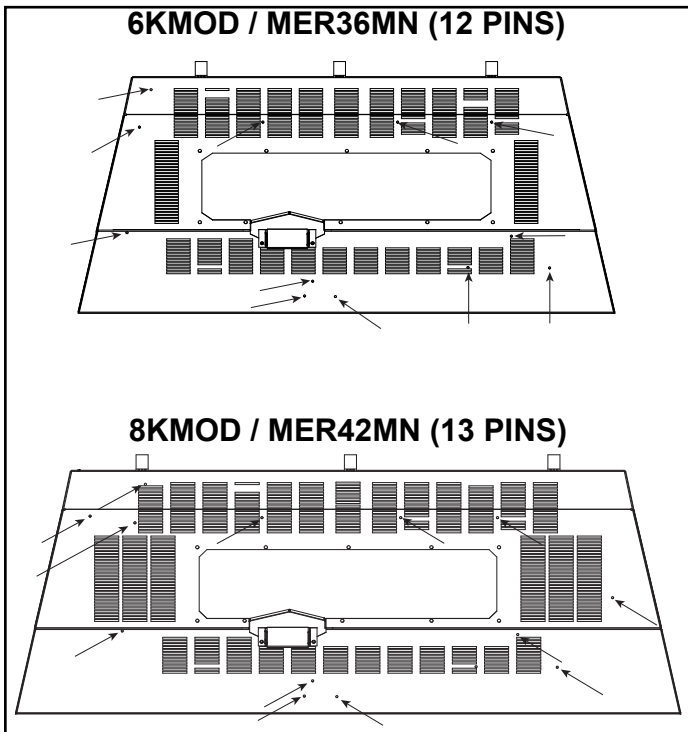
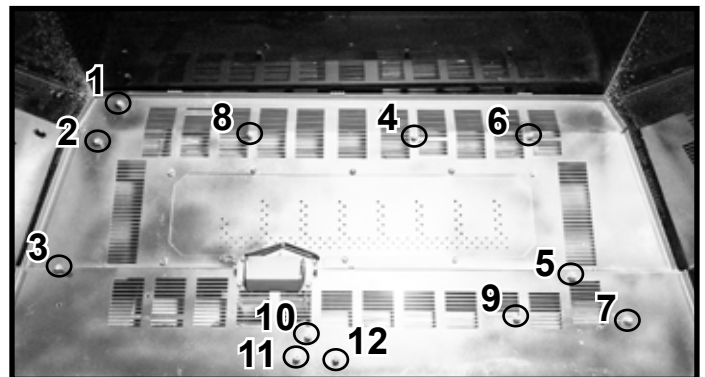

Figure 2 Locations for Log Pins
Figure 3 Log Pins Installed (6KMOD / MER36MN Base Pan Shown)
1. Fill round holes with included log pins as indicated in Figure 2. Discard remaining log pins. Figure 3 shows the log pins in the round holes.